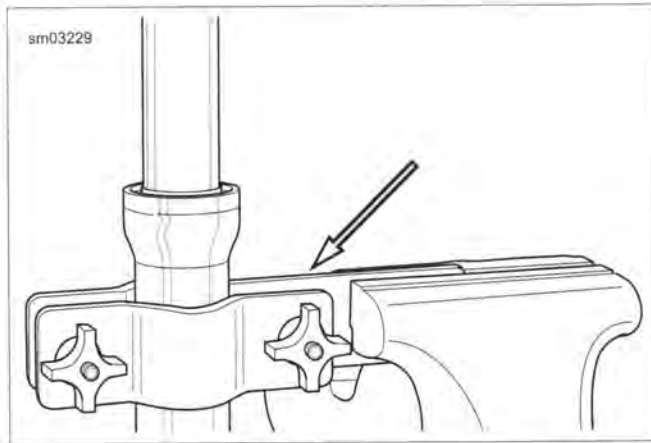

Figure 2-89. Fork Holding Tool (mounted vertically to slider)
1. See Figure 2-89. Clamp fork tube and slider assembly in FORK HOLDING TOOL (Part No. HD-41177) and mount in vise.